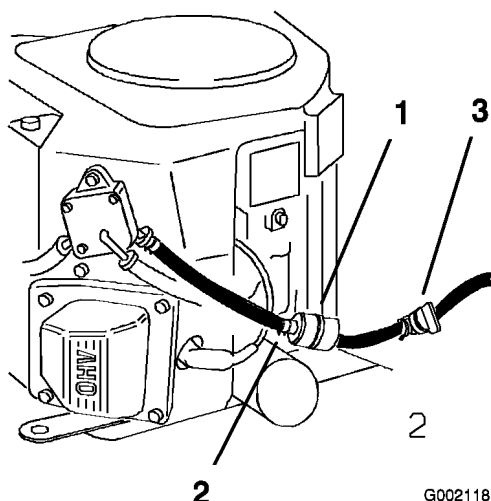

Figure 39
4. Close the fuel shutoff valve (Figure 39).
5. Squeeze the ends of the hose clamps together and slide them away from the filter (Figure 39).
7. Install a new filter and move the hose clamps close to the filter (Figure 39).
3. Close the fuel shutoff valve (Figure 39).
4. Loosen the hose clamp at the fuel filter and slide it up the fuel line away from the fuel filter (Figure 39).
5. Disconnect the fuel line from the fuel filter (Figure 39).
- Note:** Allow gasoline to drain into a fuel container can or drain pan (Figure 39).
7. Install the fuel line onto the fuel filter. Slide the hose clamp close to the fuel filter to secure the fuel line (Figure 39).